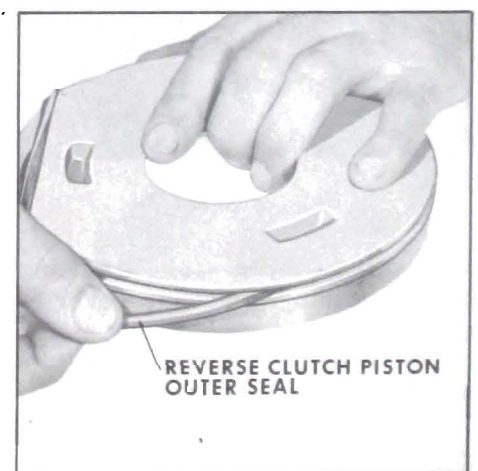

Figure 5-156
8. Examine reverse clutch piston outer seal. If nicked, torn or worn, remove seal. See Figure 5-156.